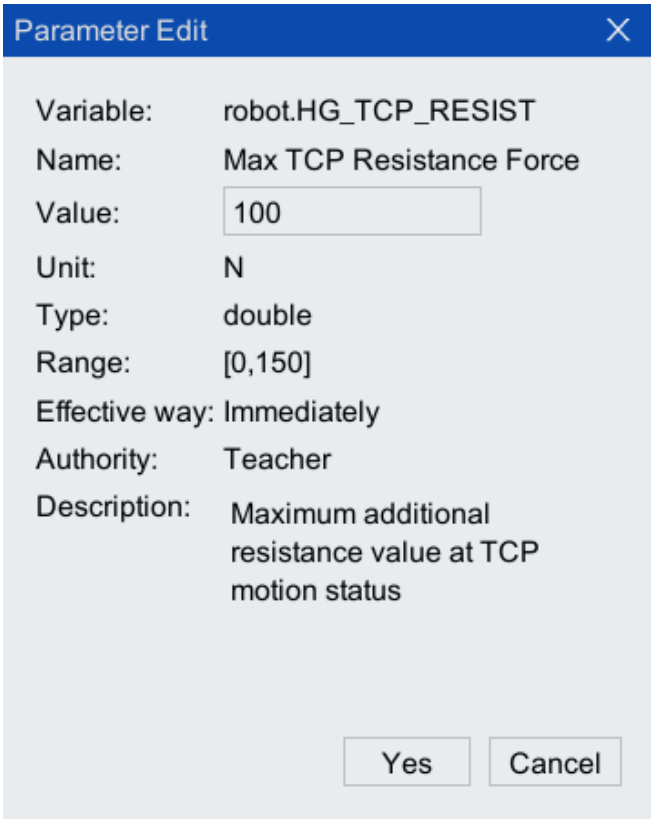

Figure 5-30 TCP Maximum additional resistance value configuration interface
Step4. In the pop-up [Parameter Edit] configuration interface (as shown in Figure 5-30), configure the [Value]. Parameter description is shown in Table 5-8.